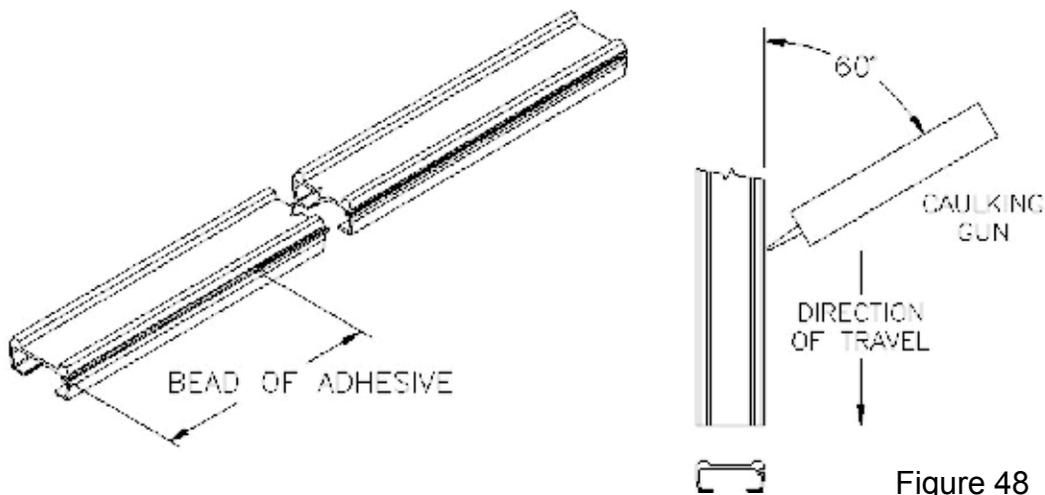

Figure 48
E. Apply a 1/8" diameter bead of SikaFlex 221 adhesive sealer into the exposed seal groove. The bead should be from the end of the seal to the end of the slat. Hold the caulking gun at a 60° angle to the floor slat. Push the bead, do not pull (Figure 48).